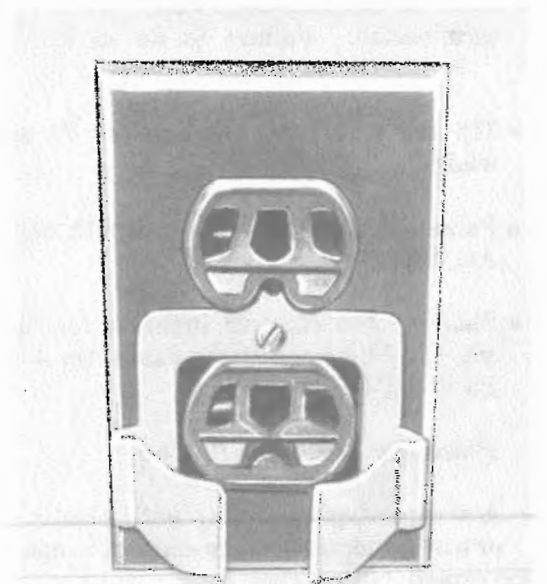

Fig. 8—841050818 Retaining Clamp Mounted on AC Outlet Box Using Outlet Cover Screw
**Danger:** Securely attach retaining clamp to ac outlet using outlet cover screw **BEFORE** attempting to install 85B1 power unit. See Fig. 8. When removing 85B1 power unit, always unplug the power unit completely from the outlet **BEFORE** attempting to remove the retaining clamp. This will prevent the possibility of a loosened retainer clamp or metallic outlet cover making contact with the ac prongs of the 85B1 power unit when partially withdrawn from outlet. Do not use an 841050818 or similar retaining clamp on outlets where the cover mounting screw holds the duplex outlet in the box.